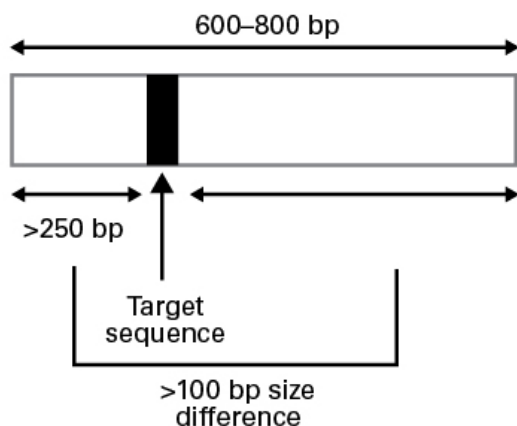

Figure 6. PCR amplicon design.
1. Design primers to amplify the region targeted by CRISPR/Cas9. The optimal amplicon size is 600–800 bp, with the sgRNA target sequence located asymmetrically within the amplicon; each cleavage fragment should be at least 250 bp, and there should be a >100 bp size difference between the fragments after Cas9 cleavage (Figure 6). These guidelines ensure efficient amplification and good assay resolution.